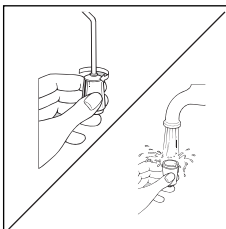

fig. 18
2. Wait several minutes for the steam tube to cool down. Unscrew the milk frother by rotating clockwise (fig. 18) and wash thoroughly with warm water.